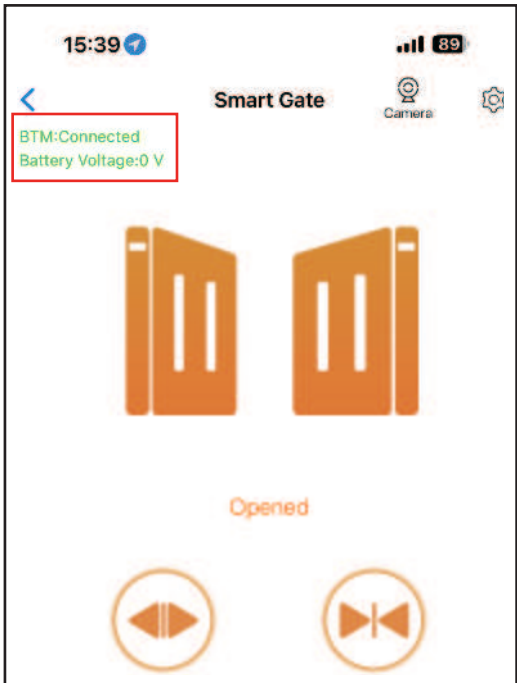

Fig 6
- ★ When the device is offline or the mobile phone has no network, if the user is nearly the device within 10 meters, and open the APP, it will automatically switch to the Bluetooth mode to control the device. (Fig 6)